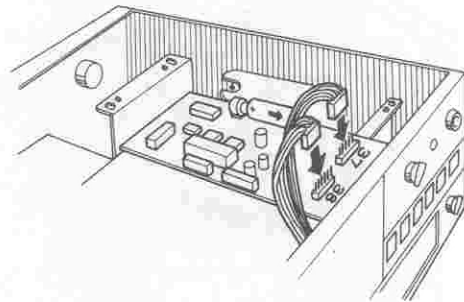

Fig. 4 Install the DF-180
- Connect the DF-180 to the TS-180S as shown in Fig. 4.